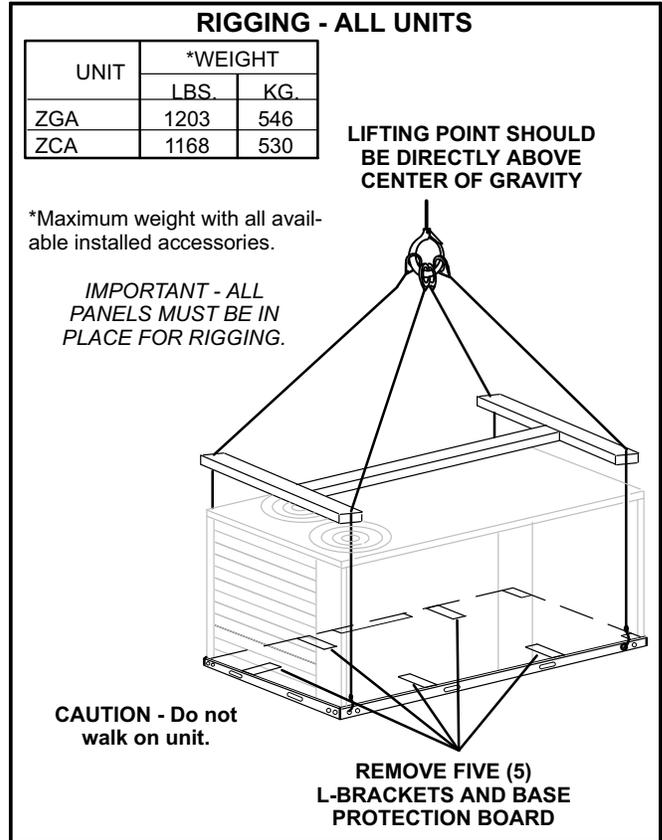

FIGURE 4
Rig unit for lifting by attaching four cables to holes in unit base rail. See figure 4.
- 5- **All Units** - Partially lift unit and remove five (5) L-brackets which secure the protective base board. See figure 4.